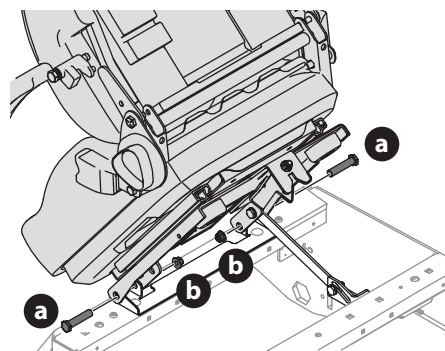

Fig. 8
- Remove the two flange lock nuts (b) and shoulder bolts (a) from the manual bag (Fig. 8).
- Place the seat into position and secure the seat into place with the hardware (Fig. 8).